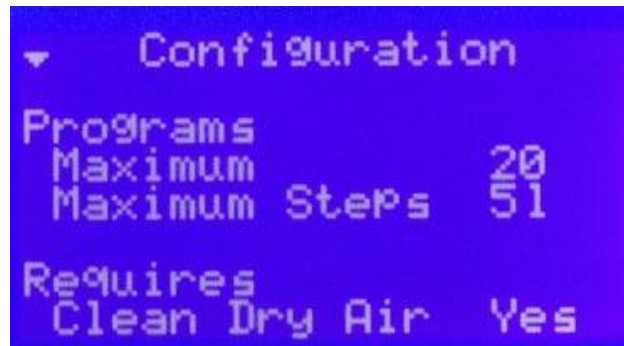

Figure 3-22A
3.4.4.2 “INFO MODE” - CONFIGURATION - Displayed Fields – see figures 3-22A to 3-22E